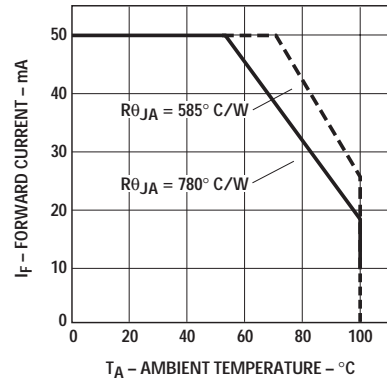

Figure 4. Maximum Forward Current vs. Ambient Temperature. Derating Based on  $T_{JMAX} = 130^{\circ}C$ .
1. Derate linearly as shown in Figure 4.